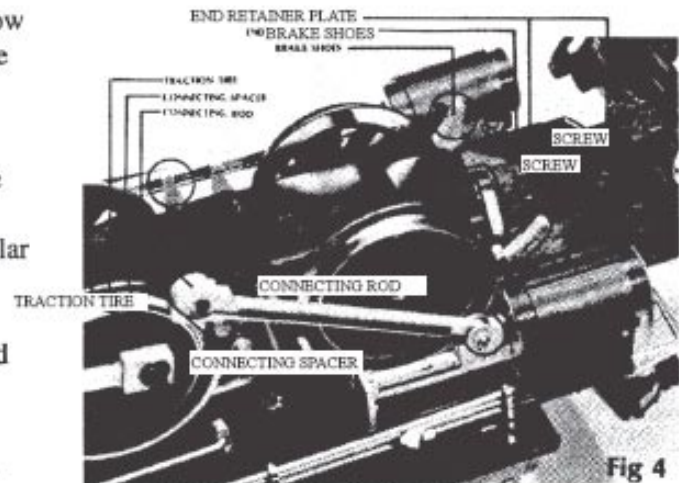

Fig 4
shown in Fig. 4.
B) Unscrew the connecting spacer (Fig. 4).